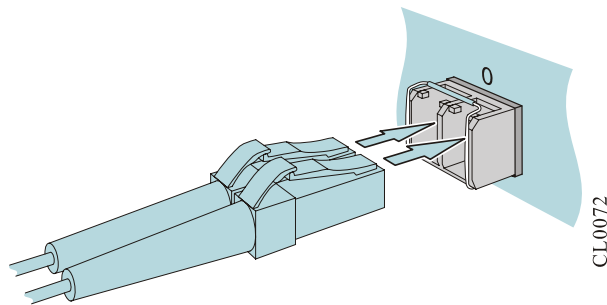

FIGURE 5-7 CONNECT SFP+ TO FIBER
Step 6: Insert the fibers into the SFP+ ports in order. The diagram of connecting the SFP+ to the fiber is as shown in Figure 5-7.